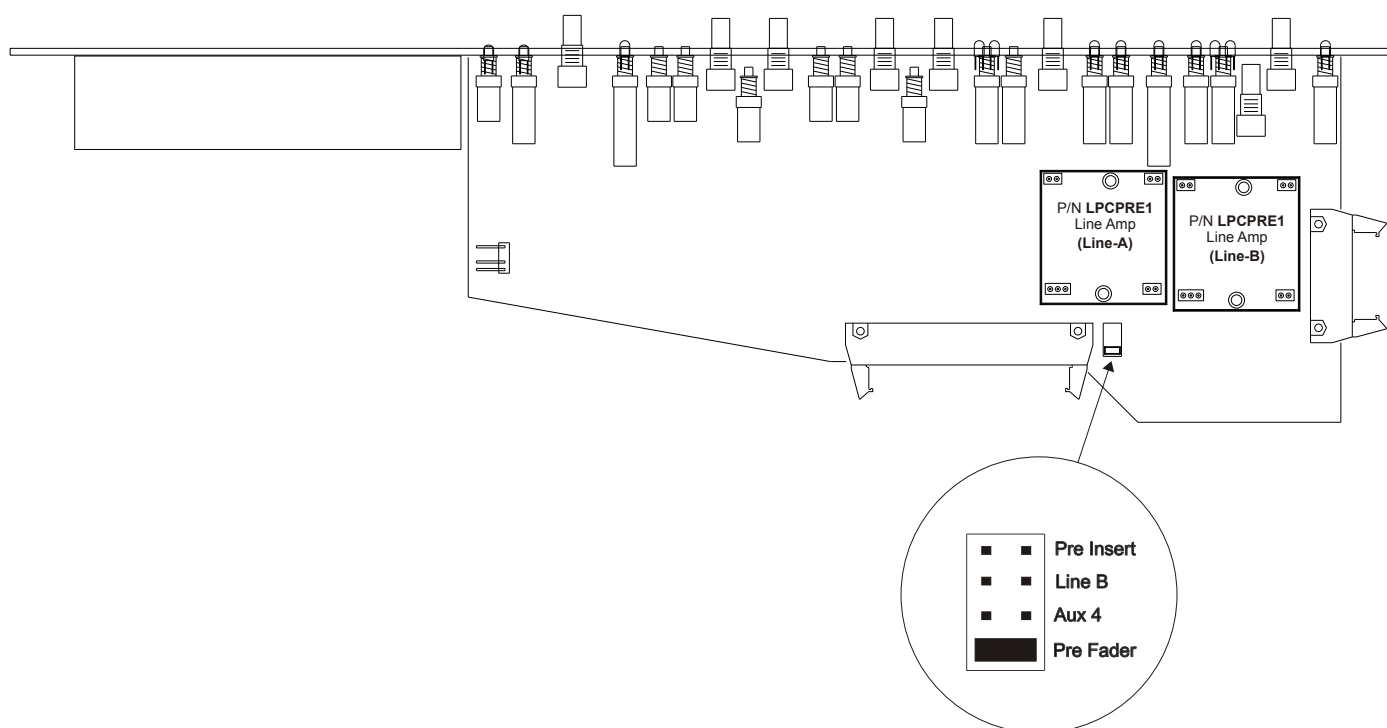

Figure 11. Direct Out configuration jumper
- 15. Direct Out Select** This switch selects the signal source for the balanced direct output. The "Post ↑" position is after the slide fader and responds to any adjustment of the slider fader. The "Pre ↓" position is user configurable with an internal jumper to select four possible signal sources; Pre Fader, Pre Insert jack, Line-B input, or Aux 4 send. See Figure 11 on page 24 for the direct out configuration settings. The factory default setting for the "Pre" position is Pre Fader which is before the slide fader and is unaffected by any adjustment to the slide fader. A yellow LED on this switch illuminates indicating that the "pre" position has been enabled.
| 18. Aux Sends 3 & 4 | Adjusts the level to the Aux busses 3 and 4. Aux 4 can be configured to send a signal to the direct output. (See jumper configuration Figure 11 on Page 24) |
Figure 11 below shows the location and designations for the Direct Out configuration jumper.